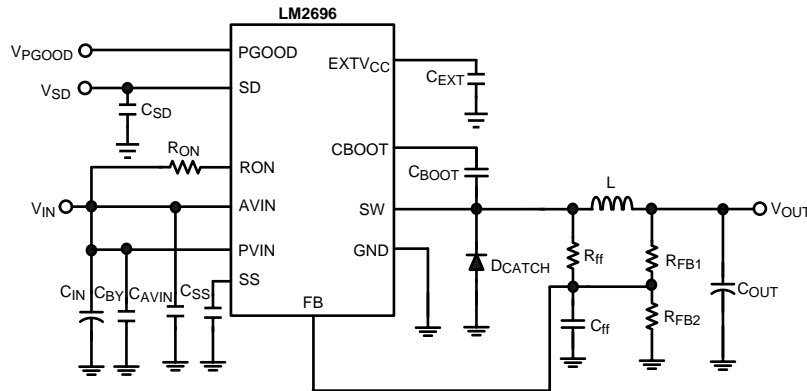

Figure 28. 12V-to 3.3V Voltage Applications Circuit
(1) (Figure 28: Medium Voltage Board, 12V-to-3.3V conversion, $f_{sw} = 300$ kHz)